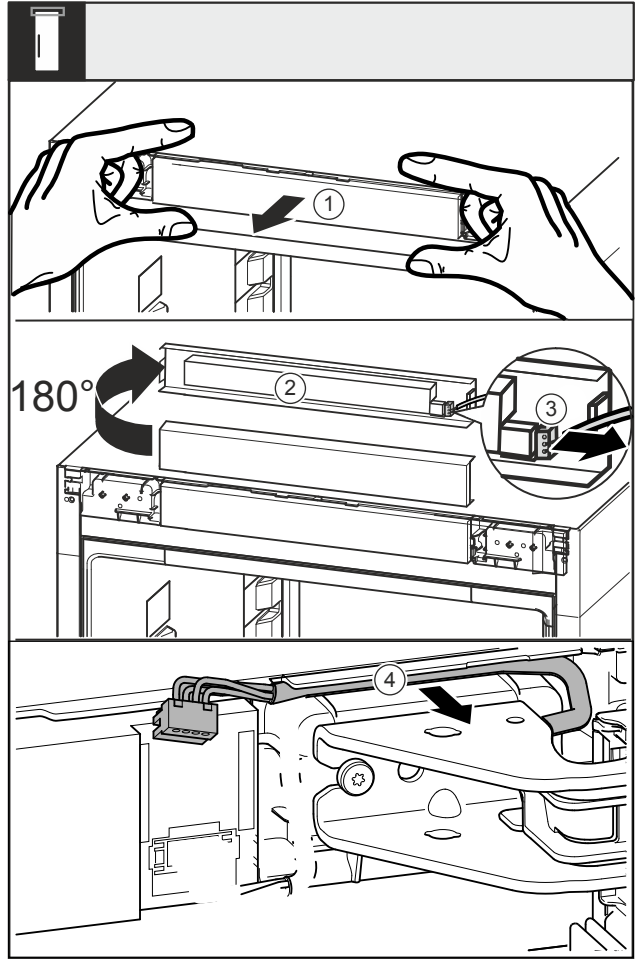

Fig. 17
- ▶ Loosen the trim Fig. 17 (1) towards the front.
- ▶ Turn the trim Fig. 17 (2) upwards by 180°.
- ▶ Push the locking tab on the plug Fig. 17 (3) backwards and remove the plug carefully.
- ▶ Release the cable over the swap bearing block Fig. 17 (4) from the guide.